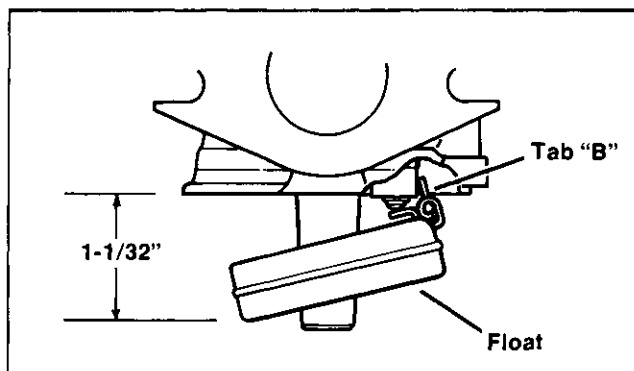

Figure 4-5. Setting Float Drop
3. **Set float drop.** With carburetor in normal operating position, float drop should be limited to $1-1/32$ " between machined surface of casting and free end of float. Adjust by bending float tab "B." See Figure 4-5.